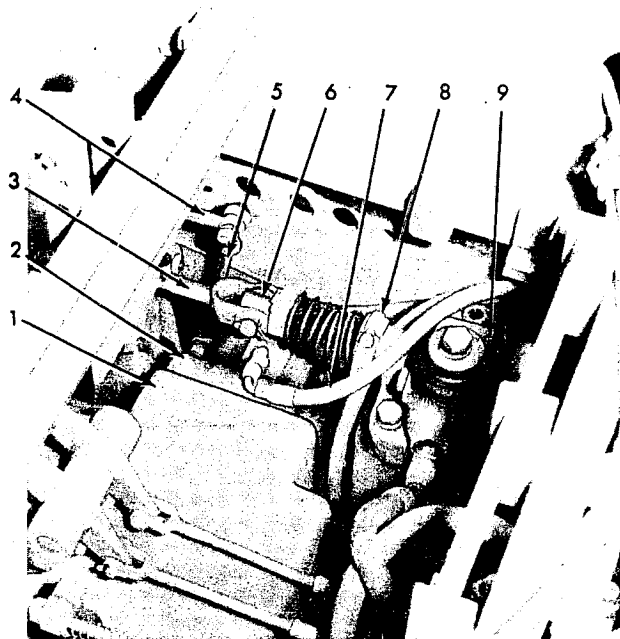

Fig. 11 -- Range Selector Valve Installed (HD6EP Shown - HD7G Similar) (T-35348)
Range selector valve, located on upper right side of transmission case, Fig. 11, directs oil to hydraulic system components; three pressure regulating valves on rear side of valve maintain various circuit pressures.
- a. Tilt steering levers and seat assembly forward. Remove brake control rear rod, Fig. 11; loosen rear hose clamp and pull spool from right brake valve.
Disconnect lube pressure gauge hose, Fig. 11.
- c. Disconnect cross shaft lever from connecting rod, Fig. 11; remove valve; cover opening.
- d. Clean mating surface of valve and transmission case; install valve (with new gasket) Fig. 11.
- e. Connect oil lines to valve and cross fitting beneath valve; install transmission bottom guard. Install right brake valve spool, Fig. 11, and rear control rod.
- f. Move valve rotor to neutral (middle) position and speed shift hand lever to neutral. Adjust length of connecting rod, Fig. 11 as necessary to align capscrew hole in connecting rod and cross shaft right lever; install capscrew.